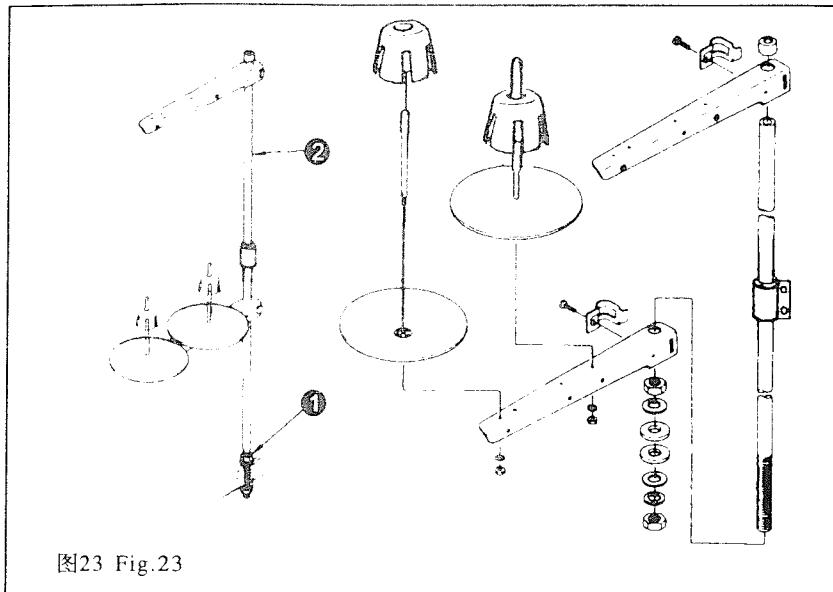

图23 Fig.23
- 2) You can adjust the presser foot lift up to 13mm using knee lifter adjust screw①.
- 3) When you have adjusted the presser foot lift to over 10mm, be sure that the bottom end of needle bar ② in its lowest position does not hit presser foot ③.
17. 线架的装法(图23)
17. INSTALLING THE THREAD STAND (Fig.23)